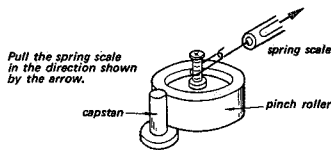
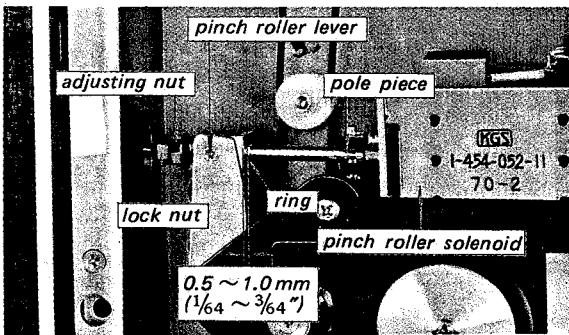

Fig. 4-1-6. Pinch roller pressure adjustment
Fig. 4-1-7. Pinch roller pressure adjustment
(See Fig. 4-1-6 and Fig. 4-1-7.)
- (1) Remove the reel panel referring to "Panel Removal" on page 14.
- (2) Place the unit in the STOP mode.
- (3) Push the pole piece of the solenoid into its housing by the hand, and make sure that the clearance between the ring and the pinch roller lever is 0.5 ~ 1 mm ($1/64 \sim 3/64$ ").
- (4) Make a loop with a piece of string and attach the spring scale to the pinch roller shaft with the loop of string. See Fig. 4-1-6.
- (5) Hold the actuator so that the SHUT-OFF switch is activated (a rubber band or piece of masking tape will hold the actuator as though tape were threaded on the unit).
- (6) Place the unit in the PLAY mode.
- (7) Pull the scale horizontally in the direction shown by the arrow. The capstan shaft, pinch roller and the scale should be in a line.
- (8) Check a scale reading when the pinch roller just leaves the capstan shaft.
- (9) Adjust the adjusting nut so that a scale reading is between 1 kg and 1.4 kg (2.2 lb and 3.1 lb).
- (10) Make sure that the solenoid operates normally when a mode is changed from the PLAY to the STOP and vice versa several times. If the tape slips, readjust the above steps.
- (11) Lock the adjusting nut with the lock nut.